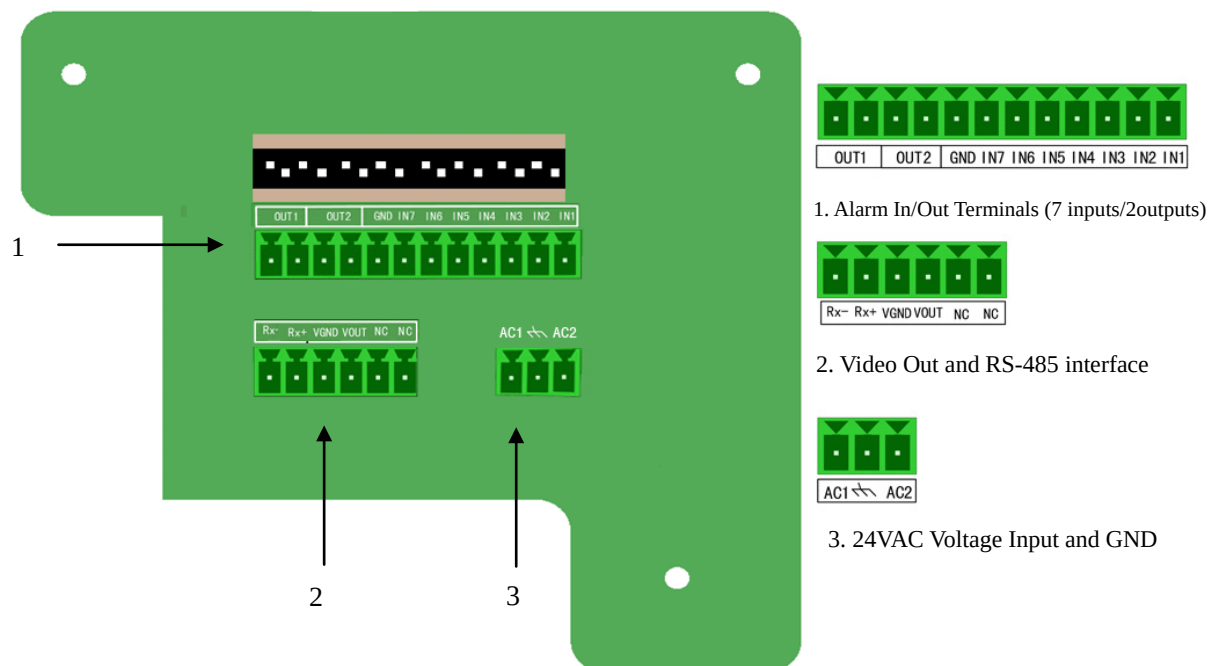

Figure. 1.2.12 Bottom circuit board (IR speed dome)
5. Hang the IR speed dome's hanging hook to the top cover. Then, connect the integrated cable into the appropriate slots by suggestive identifying information near the slots. The circuit interfaces on the bottom board are shown in figure 1.2.12(the bottom board of IR speed dome), 1.2.13(the bottom board of network IR speed dome), 1.2.14(the bottom board of network high-definition IR speed dome).